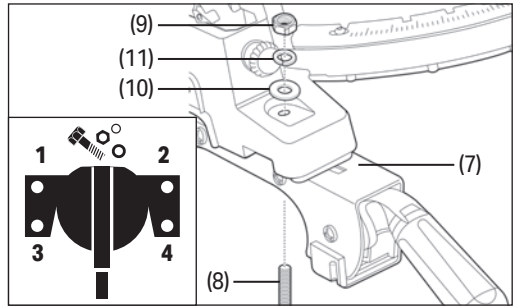

Fig. 10
**Note: This mitre saw stand is for use with mitre saws with four mounting holes in a rectangular pattern (Refer to current Fig.10).**
1. Before fitting the mounting brackets (7) to a mitre saw, check how easily the mounting brackets can be seated on the mitre saw frame.
2. The brackets may need to be adjusted so that they hook onto the frame without excessive play or tightness, and that the locking levers (6) can be easily applied.
4. Turn the screw clockwise to tighten the clamping tension and anti-clockwise to loosen the clamping tension (6).
5. Once the brackets are sitting correctly on the frame, retighten the locking nuts. Check that the locking levers (6) can be activated to secure the bracket safely.